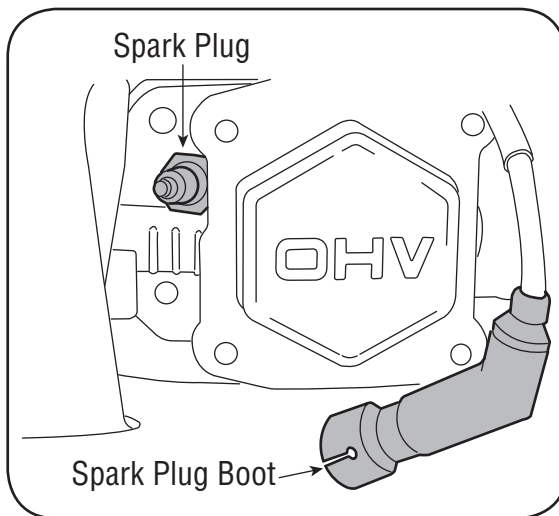

Figure 10-3
1. Remove the spark plug boot and use a spark plug wrench to remove the plug. See Figure 10-3.